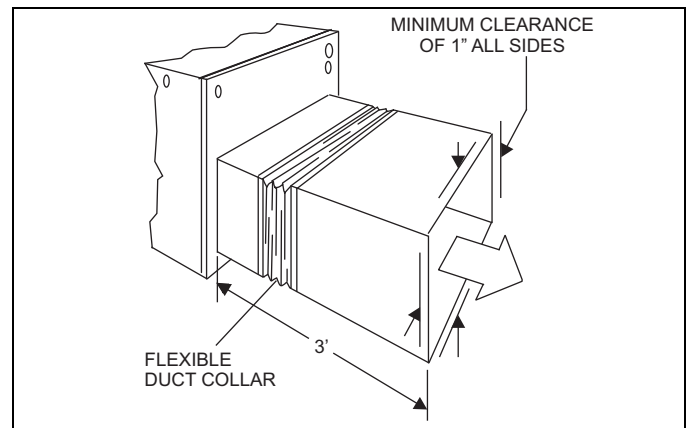

FIGURE 1: Plenum Clearances
2. Refer to the unit rating plate for the air handler model number, and then see the dimensions page of this instruction for supply air plenum dimensions in Figure 1. The plenum must be installed according to the instructions.
*If electric heat is used, a minimum clearance of 1" must be maintained on all sides of the supply air duct and/or plenum continuously for up to 3' (See Figure 1).*